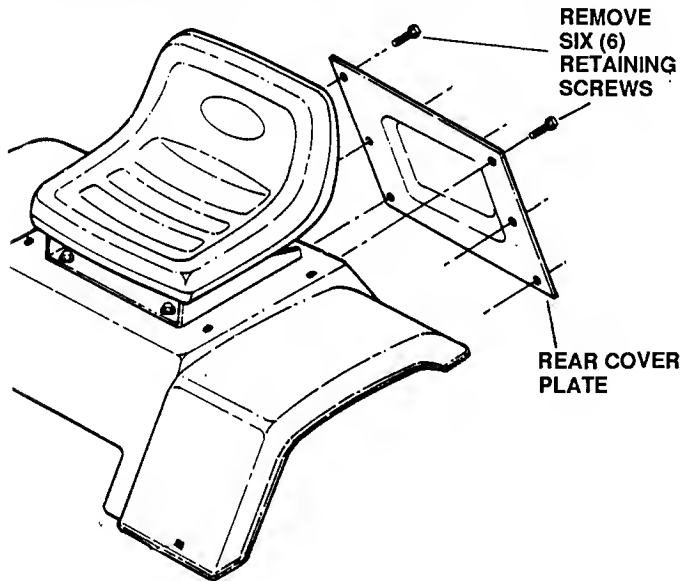

FIGURE 32
3. Remove REAR COVER PLATE. See Figure 32.